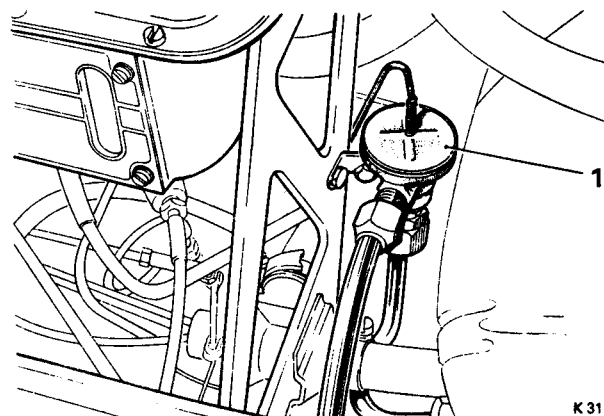

FIG. C30 POSITION OF EXPANSION VALVE
(Refer to Figure C30)
17. **On late cars**, where the expansion valve is fitted inside the engine compartment (see Fig. C30), disconnect the two pipes fitted to the bottom of the evaporator box (see Fig. C31).